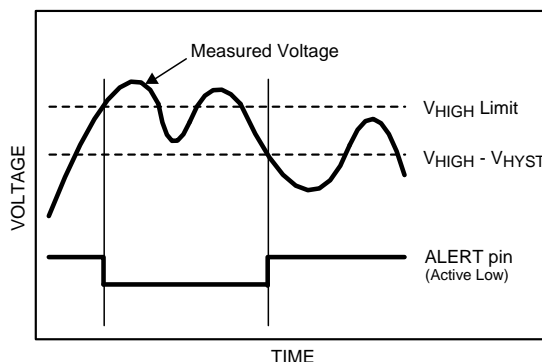

Figure 24. Alert condition cleared when measured voltage crosses $V_{HIGH} - V_{HYST}$
The ALERT function is an "out-of-range" indicator. At the end of every conversion, the measured voltage is compared to the values in the V_{HIGH} and V_{LOW} registers. If the measured voltage exceeds the value stored in V_{HIGH} or falls below the value stored in V_{LOW} , an alert condition occurs. The Alert condition is indicated in up to three places. First, the alert condition always causes either or both of the alert flags in the Alert Status register to go high. If the measured voltage exceeds the V_{HIGH} limit, the Over Range Alert Flag is set. If the measured voltage falls below the V_{LOW} limit, the Under Range Alert Flag is set. Second, if the Alert Flag Enable bit is set in the Configuration register, the alert condition also sets the MSB of the Conversion Result register. Third, if the Alert Pin Enable bit is set in the Configuration register, the ALERT output becomes active (see Figure 24). The ALERT output (ADC101S021 only) can be configured as an active high or active low output via the Polarity bit in the Configuration register. If the Polarity bit is cleared, the ALERT output is configured as active low. If the Polarity bit is set, the ALERT output is configured as active high.
2. The measured voltage goes below the programmed V_{HIGH} limit minus the programmed V_{HYST} value and the Alert Hold bit is cleared in the Configuration register. (see Figure 24). If the Alert Hold bit is set, the alert condition persists and only clears when a one is written to the Over Range Alert Flag bit.